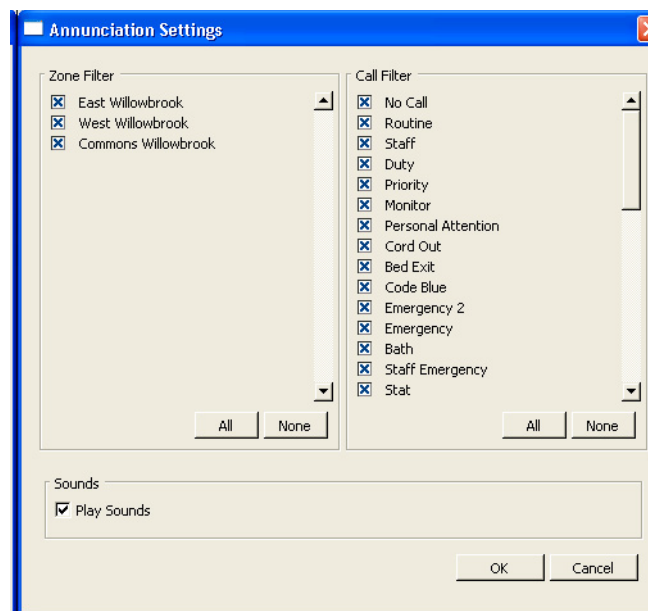

FIGURE 97. Annunciation Settings
1. Select **System Menu > Annunciation Settings** to access the Annunciation Settings window, as shown in Figure 97.